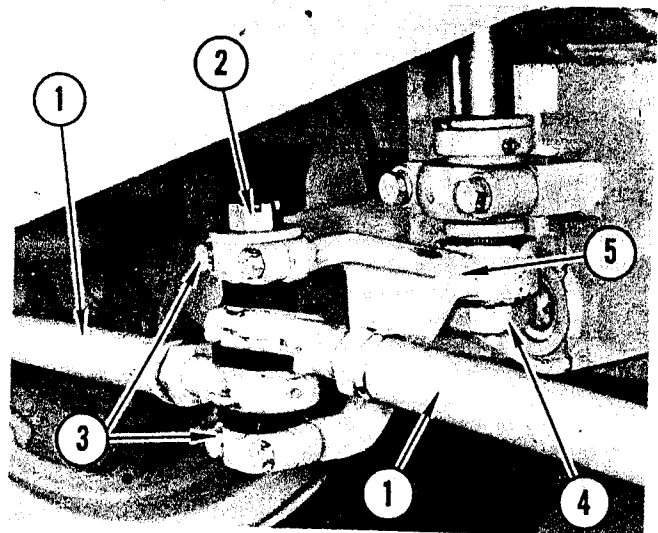

FIGURE 11. STEERING LINKAGE REMOVAL
Refer to Figure 11 and follow the sequence as shown to remove the pitman arm assembly. Item (1) tie rods were previously removed.